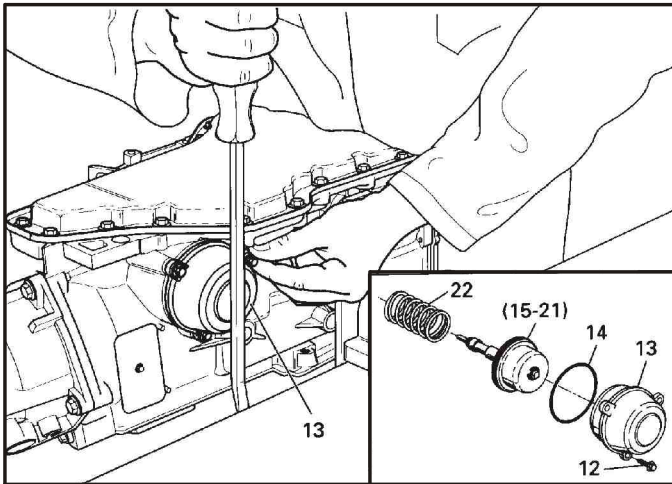

Figure 39
15. Apply pressure to the servo cover using a large screwdriver with its end against the edge of the bench, as shown in Figure 39.
16. With pressure applied use your free hand to completely remove the bolts (See Figure 39). Once the bolts are removed, slowly relieve the pressure and remove the servo cover and the forward servo piston assembly, as shown in Figure 39.